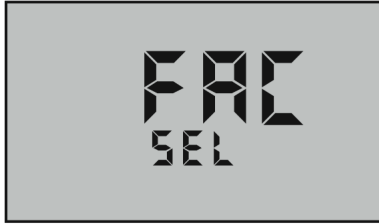

Figure 20
3. Press  repeatedly until you pass the “**CLR ALL**” and the C-F locations. The display will show a “**FAC SEL**” (see Figure 20).